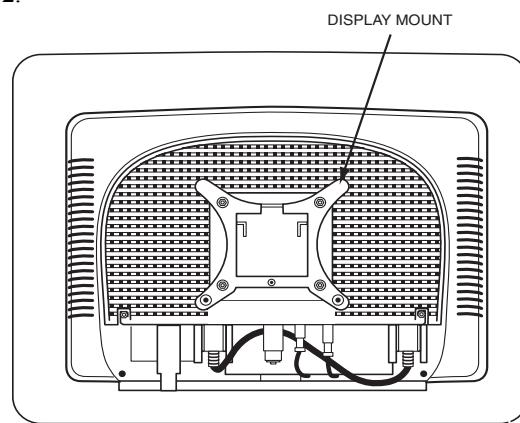

Fig. 2 — Display Panel with Mount Attached
Step 4 — Mount Display Screen on Arm Mounting Bracket — Locate the EverVu display panel. Do not remove the plastic covering until you are ready to start up the touch screen. The display screen is shipped with the quick connect mount attached to the back of the screen. See Fig. 2.